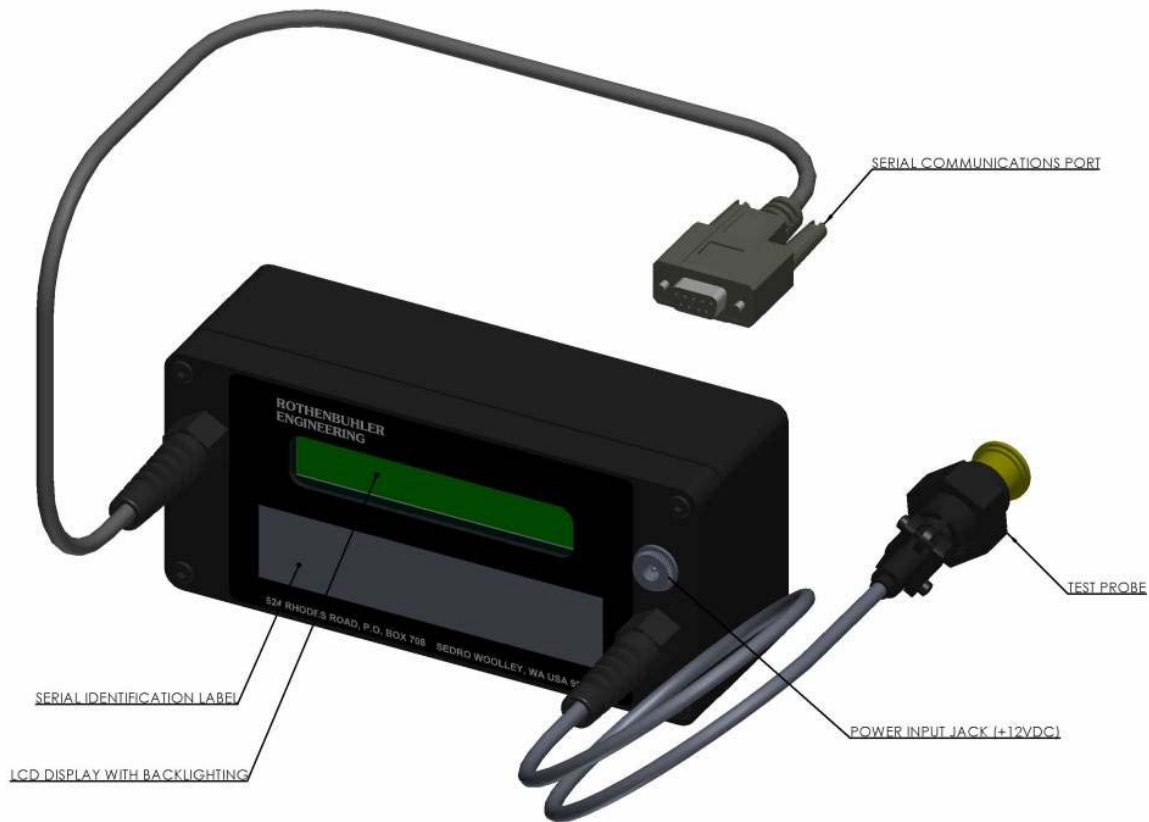

Figure 2-10 Test Box
2.8.1. Figure 2-10 provides a drawing of the Test Box. The Test Box is used to display information from and to evaluate the performance of the Mini Controller and Electric Remote Units and RSTIs. The Test Box can also be used to change settings and parameters of the units with certain restrictions.